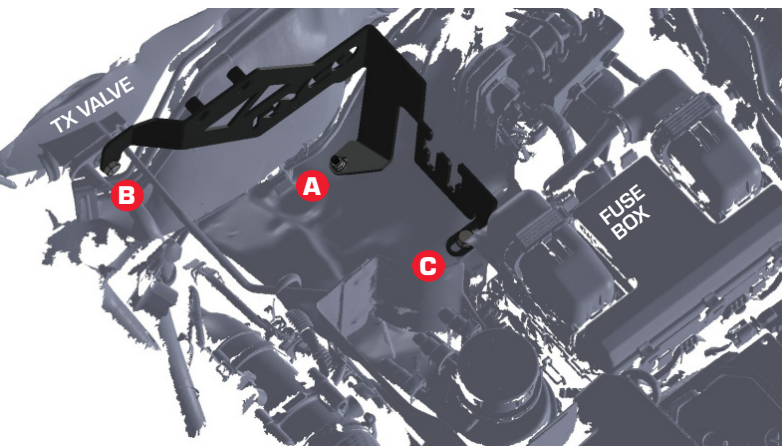

FIGURE 1
- 2 Locate the stud on the thermal expansion (TX) valve Point B. Position the bracket in the engine bay as per Fig.1, placing point B at the TX valve stud and Point C at the fuse box stud.